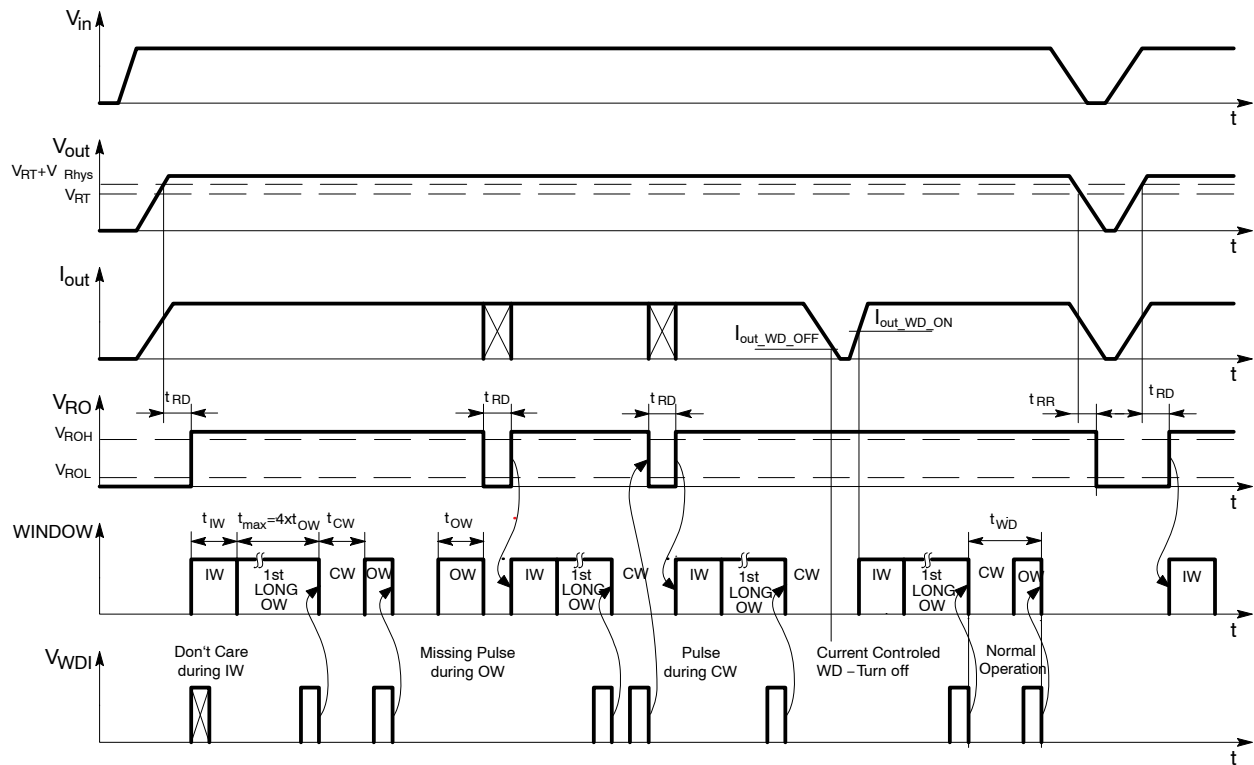
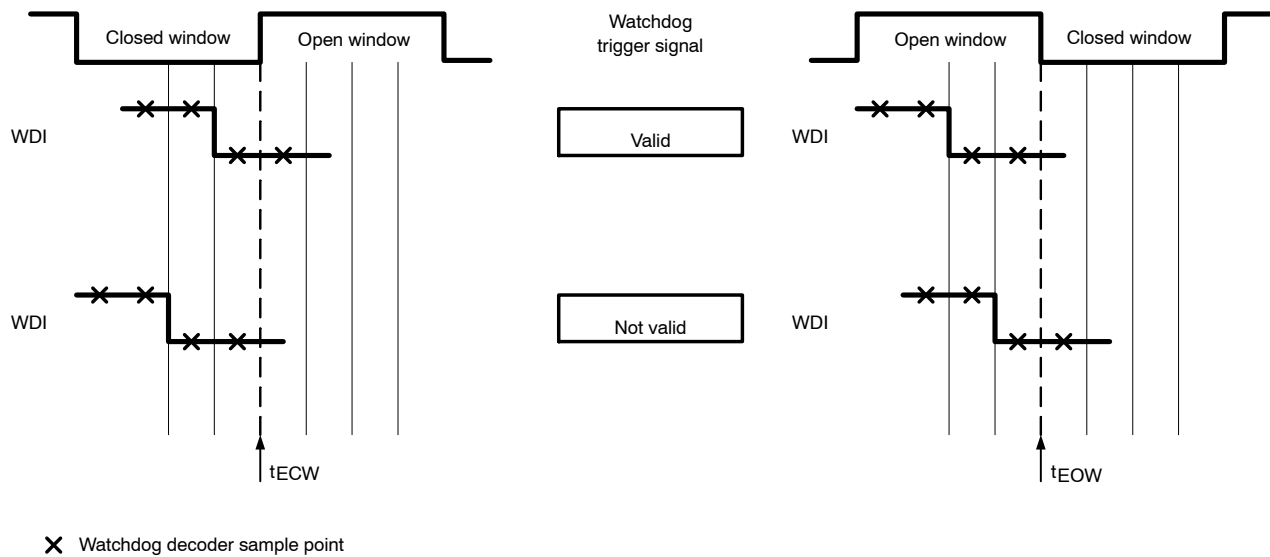

Figure 26. Window Watchdog Signal Diagram
Figure 27. Valid WDI trigger signal
The watchdog slow, fast or off state is set by pins WM1 and WM2 (see table in Figure 25). The timing values used in this description refer to typ. Values when WM1 and WM2 are connected to GND (fast watchdog and reset timing). The state diagram of the window watchdog (WWD) and the watchdog and reset mode selection table is shown in Figure 25. The WWD timing is shown in Figure 26. After power-on, the reset output signal at the RO pin (microprocessor reset) is kept LOW for the reset delay time t_{RD} (16 ms). RO signal transition from LOW to HIGH triggers the ignore window (IW) with duration of t_{IW} (32 ms). During this window the signal at the WDI pin is ignored. When IW ends a long open window with maximum duration of (128 ms, t_{max} = 4xt_{OW}) is started. When a valid trigger signal is detected during long open window, a closed window (CW) with duration of t_{CW} (32 ms) is initialized immediately. WDI signal transition from HIGH to LOW is taken as a trigger. As valid trigger two HIGH samples followed by two LOW samples (with sampling time t_{sam} = 0.5 ms) have to be present before end of the long window. Valid WDI trigger signal is shown in Figure 27. When CW ends a standard open window (OW) with maximum duration of t_{OW} (32 ms) is initiated immediately. The OW ends immediately when valid trigger appears at WDI input. For normal operation the microprocessor timing of WDI pulses must be stable and correspond to t_{WD}. A reset signal is generated (RO goes LOW) if there is no valid trigger (missing pulse at WDI pin) during OW or if a pre-trigger occurs during the CW (unexpected pulse at WDI pin).